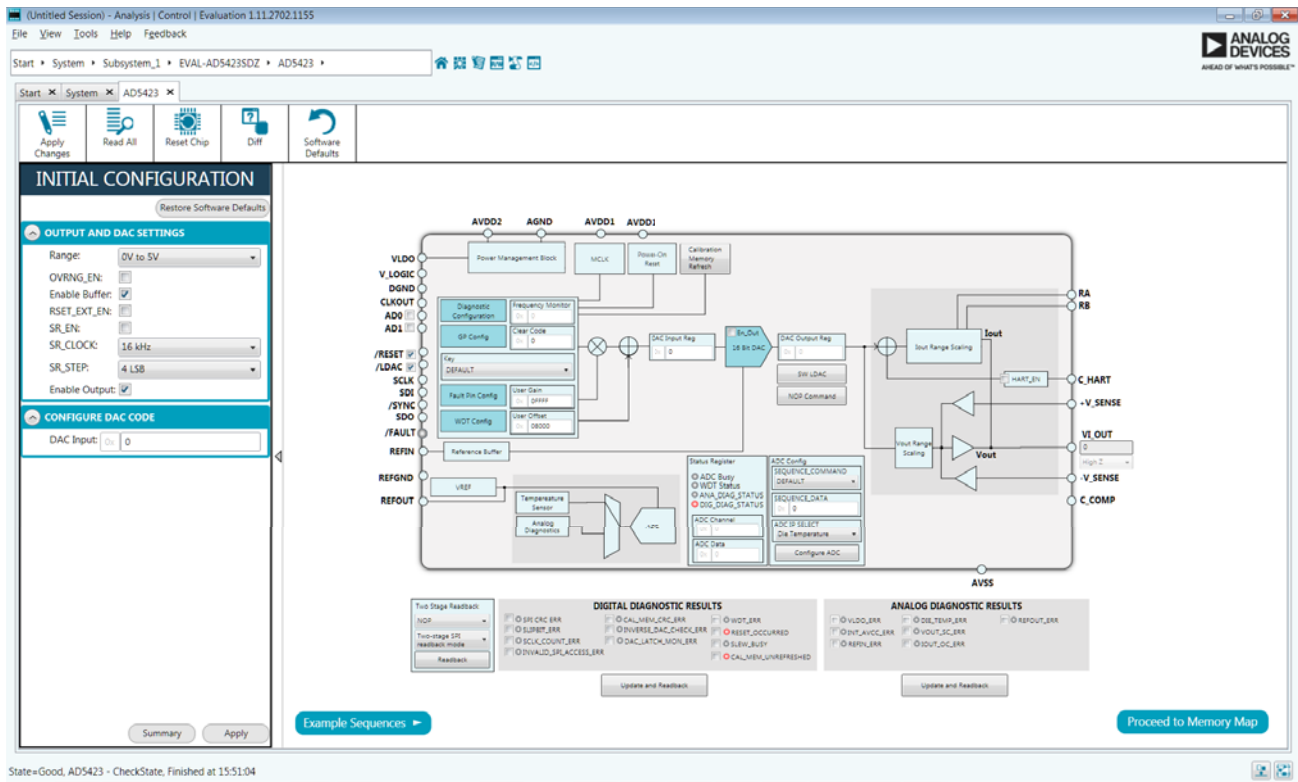

Figure 6. AD5423 Block Diagram in the ACE Software
8. Double-click **EVAL-AD5423SDZ** to open the **AD5423** block diagram (see Figure 6). The **INITIAL CONFIGURATION** pane appears on the left side of the **ACE** window. Several register settings can be configured in this pane and are written to the device in the appropriate order. The **RESET_OCCURED** and **CAL_MEM_UNREFRESHED** LED indicators in the **DIGITAL DIGNOSTIC RESULTS** pane are illuminated red by default.